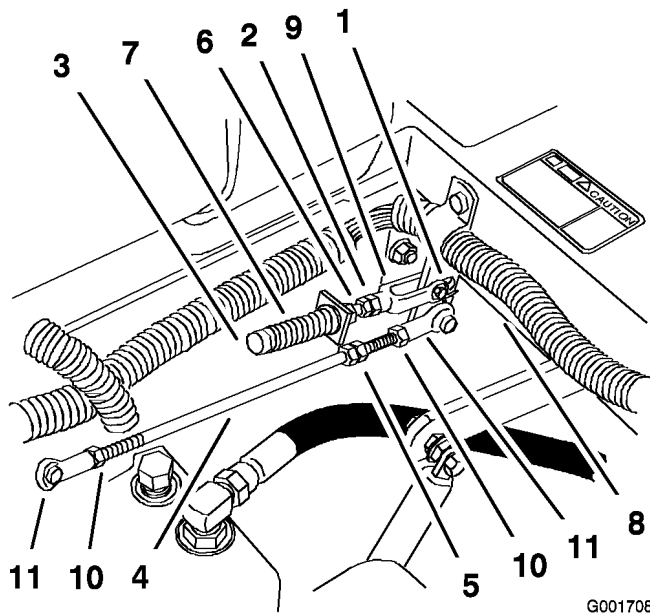

Figure 51
8. If adjustment is needed, loosen the nut and jam nut against the yoke (Figure 51).
9. Apply slight rearward pressure on the motion control lever, turn the head of the adjustment bolt in the appropriate direction until the control lever is centered in the neutral lock position (Figure 51).
10. Tighten the nut and jam nut (Figure 51).